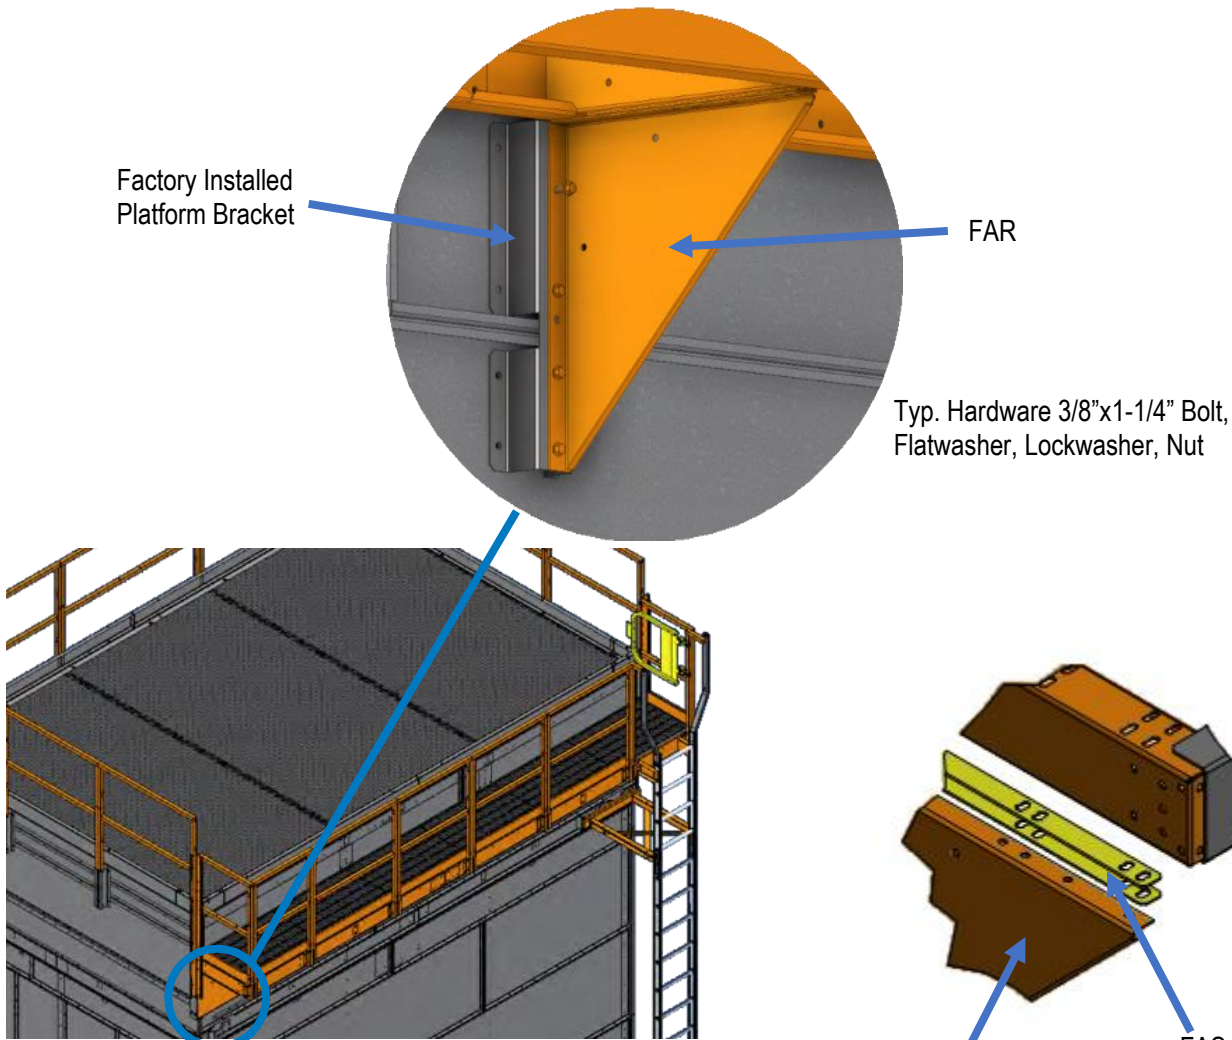

Figure 9. Typical Offset Platform Installation
1. Lift the platform by fastening the lifting device to the top guard rail so it does not slide while lifting. Lift the platform so that the support gussets align with the mounting brackets on the unit. See **Figure 9**.
2. Fasten the platform gussets to the mounting brackets using the supplied hardware as shown in **Figure 9**.